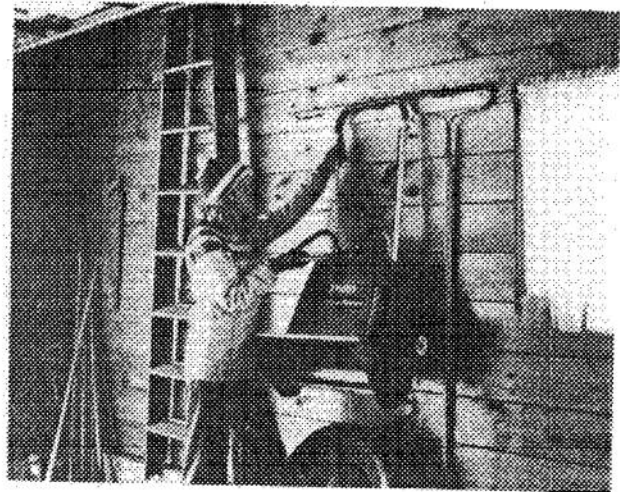

Figure 13
8. Move vanes to vertical position when storing snowthrower. Hang snowthrower by upper handle for convenient storage (Fig. 13).